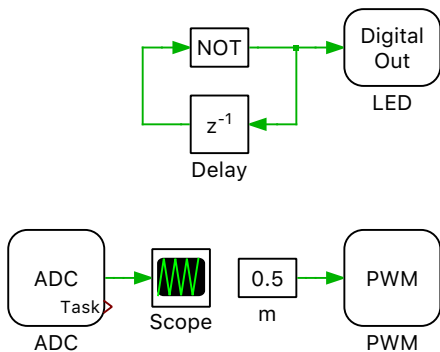

Figure 5: Controller model with ADC block added
- 3 Then configure the “Scale” parameter to 10. Connect a Scope component to the output port of the ADC block, as shown in Fig. 5.